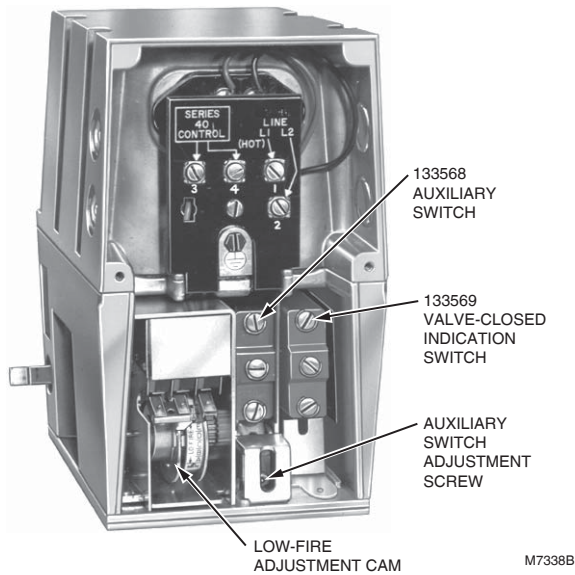

Fig. 2. V4062 Actuator with cover removed.
3. Insert the auxiliary switch in the position indicated in Fig. 2. Fasten with two screws through the actuator base.
4. Insert the proof-of-closure switch in the position shown in Fig. 2. The proof-of-closure switch mounts against the side of the actuator housing. The mounting holes are spaced to allow mounting the switch only in the correct position. Fasten with two screws through the actuator base.
The auxiliary switch can be adjusted to operate at any point in the actuator stroke. After installing the switch in the actuator, turn the adjustment screw (Fig. 2) clockwise  to cause the switch to operate earlier in the stroke or turn counterclockwise  to cause the switch to operate later in the stroke.
## Adjust Max Flow Limit Switch (Fig. 2)